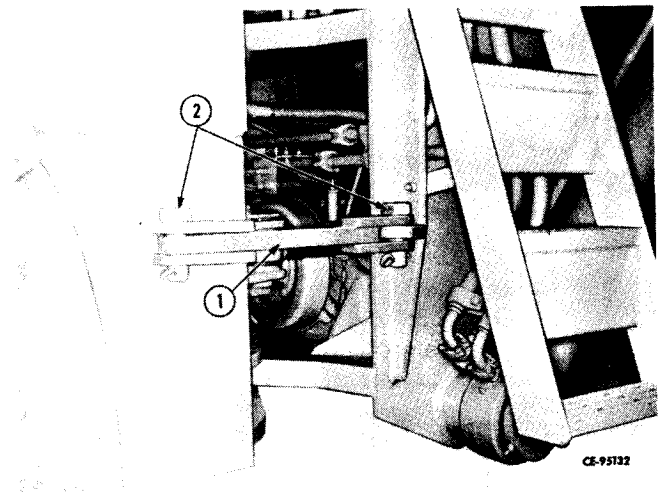

Figure 2-52
Remove safety bar (1, Fig. 2-52) and pins (2) and install bar in the storage position.